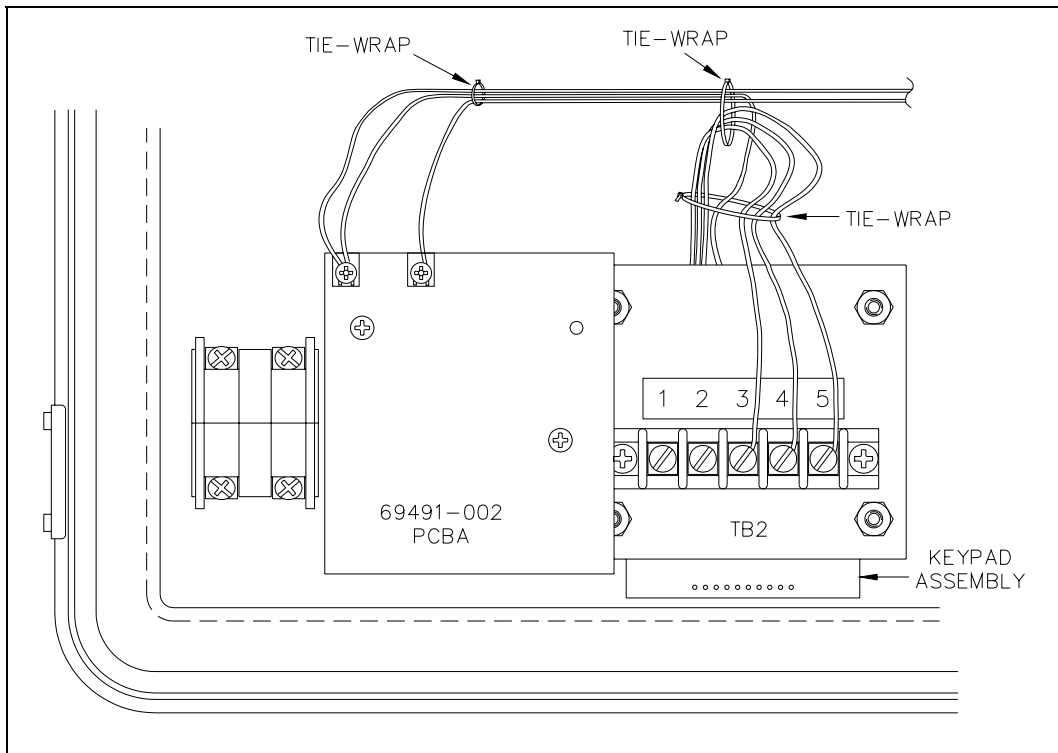

Figure 7. Tie-Wrap Location Example
22. Re-secure the wiring as noted in Step 3 using supplied tie-wraps. Wires MUST be routed and secured to prevent contact with uninsulated conductors. Refer to Figure 7 as an example.